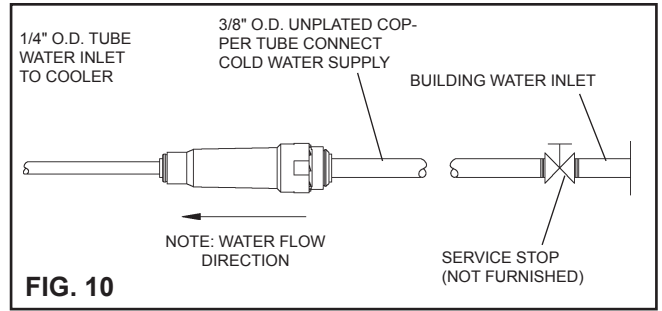

FIG. 10
5. Connect drain and water supply lines to the freeze resistant fountain. Refer to Figure 1 for component positions. Inline strainer must be used on the inlet water line. See Fig. 10.